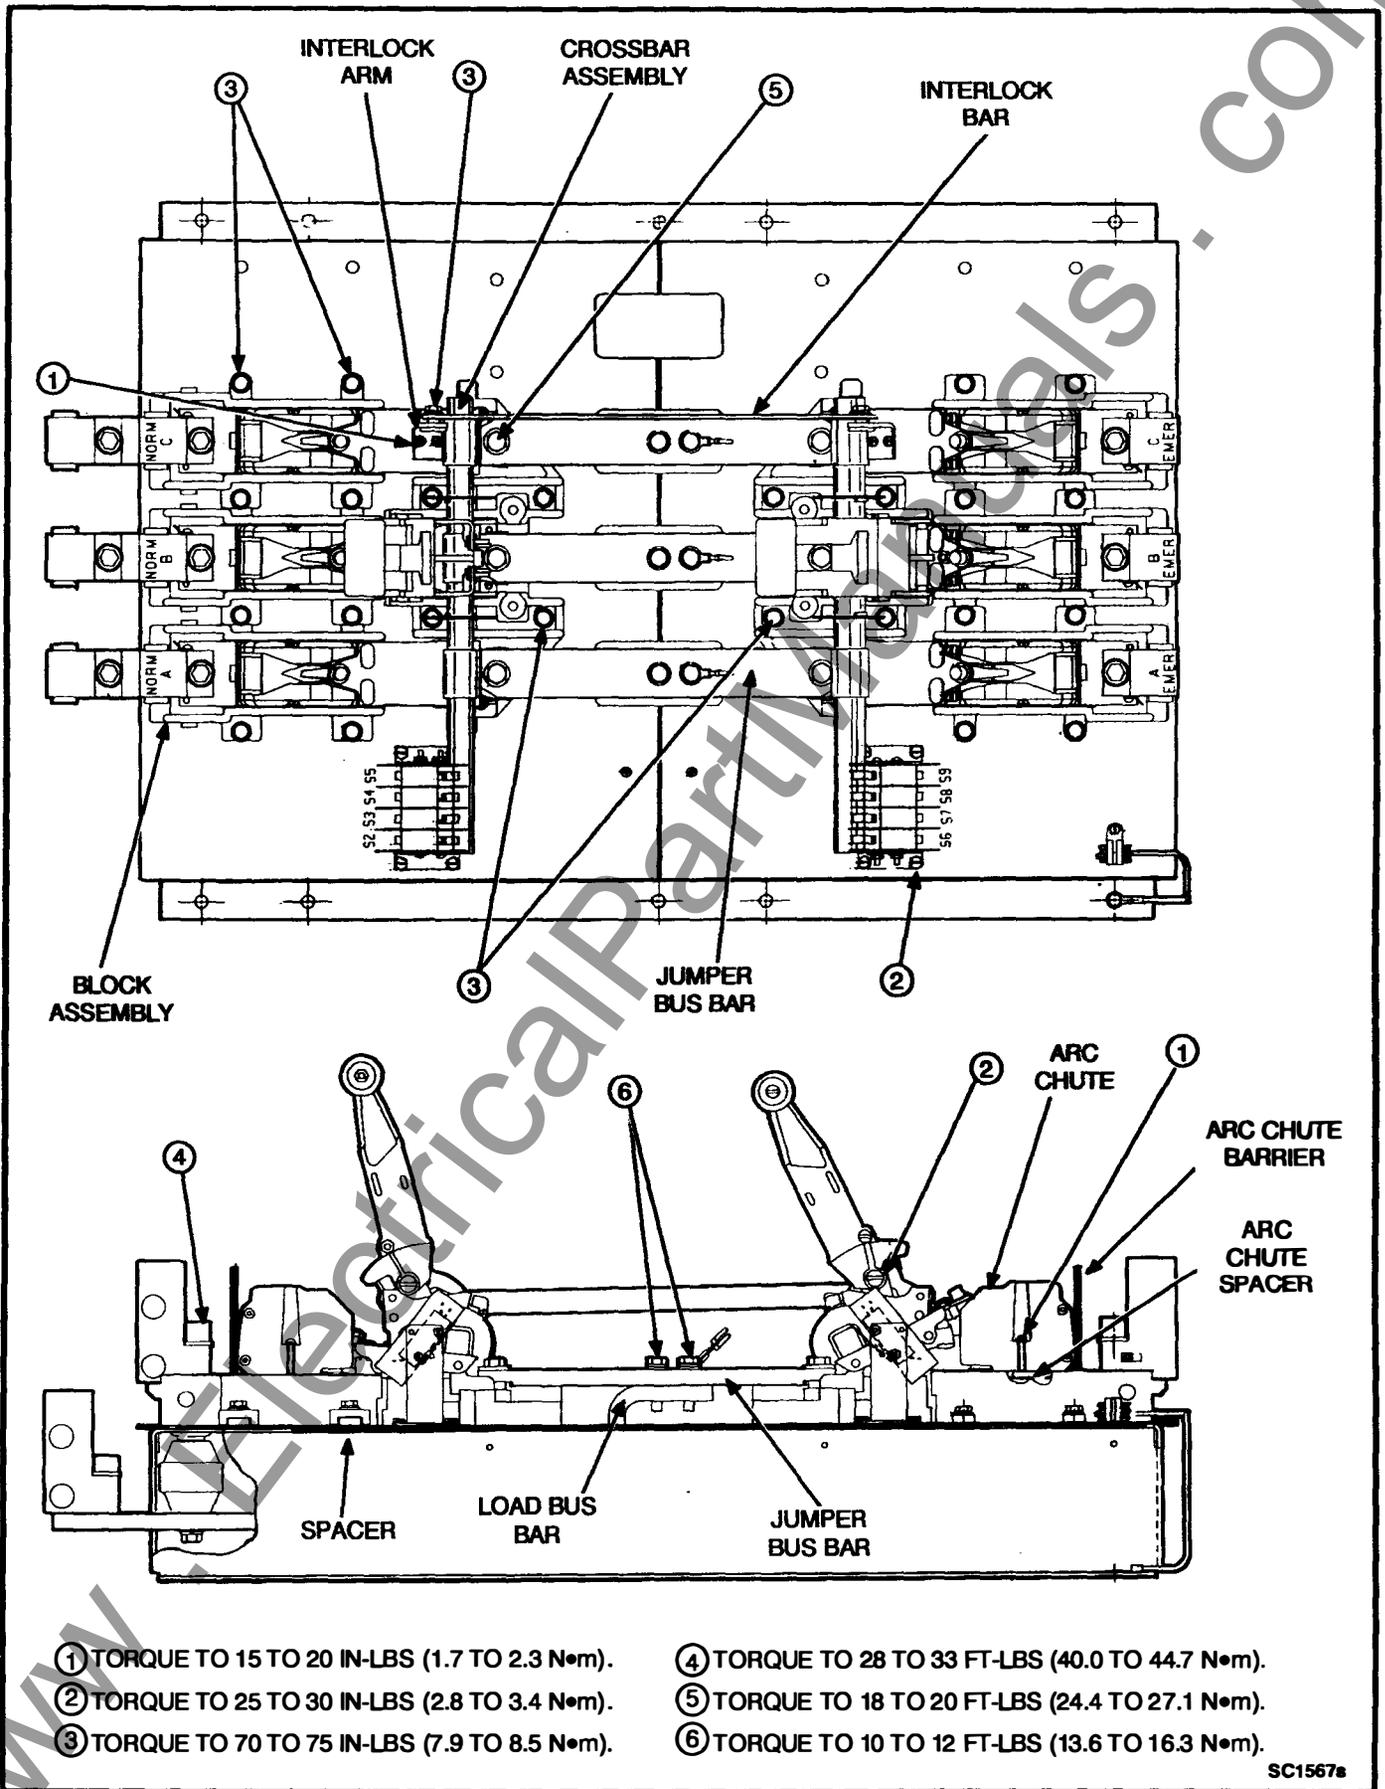

FIGURE 4-18. 3-POLE SWITCH ASSEMBLY (800 - 1000 AMPERES)
3. Remove the hex head capscrews, lock washers, and flat washers that secure the interlock bar to the interlock arm (Figures 4-18 and 4-19); and remove the interlock bar.
5. Remove the hex head capscrews, ring terminals and spring washers that secure the jumper bus bars (Figures 4-18 and 4-19) to the load bus bars.
10. Remove the hex head capscrews and flat washers that secure the block assemblies (Figures 4-18 and 4-19) to the base, and lift off the block assemblies (note where spacers are used).
11. Remove the round head machine screws, lock washers, and flat washers that secure the arc chutes (Figures 4-18 and 4-19) to the block assemblies; and lift out the arc chutes, arc chute barriers, and arc chute spacers. Discard the arc chute barriers, and spacers.
3. Secure the cross-bar assembly to the base with the hex head capscrews (4), lock washers (4), and flat washers (4). Tighten to 70 to 75 in-lbs (7.9 to 8.5 N•m) torque.
4. Apply a thin coat of glyptol between the arc chute spacers and the arc chute barrier. Place the arc chute spacers (2), arc chute barrier, and arc chute in position on each block assembly; and secure with round head machine screws (2), lock washers (2) and flat washers (2). Tighten to 15 to 20 in-lbs (1.7 to 2.3 N•m) torque.
6. Place each block assembly in position on the base and secure with the hex head capscrews and flat washers. Refer to Figures 4-18 and 4-19 to determine where the spacers are required. Tighten the capscrews to 70 to 75 in-lbs (7.9 to 8.5 N•m) torque.
3. Install the control wiring leads on the switch terminals. The leads are marked with the terminal numbers (S2/N0, S5/NC, S7/C, etc.) for identification. Refer to figures 4-18, 4-19, and 4-20 for identification of the auxiliary switch terminals.
4. Place the terminal bracket in position on the base and secure it with the hex head machine screws (4). Tighten to 25 to 30 in-lbs (2.8 to 3.4 N•m) torque.